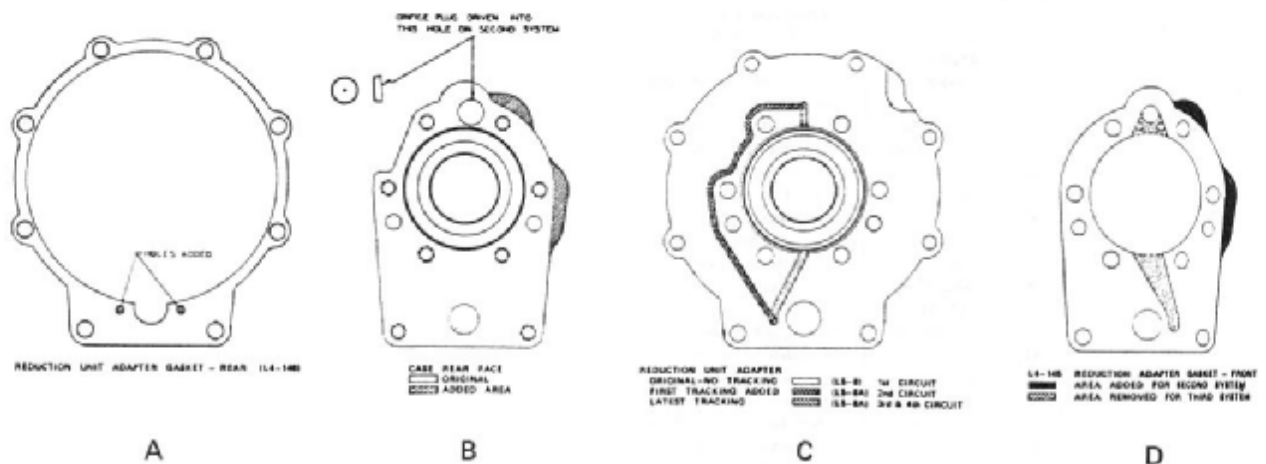
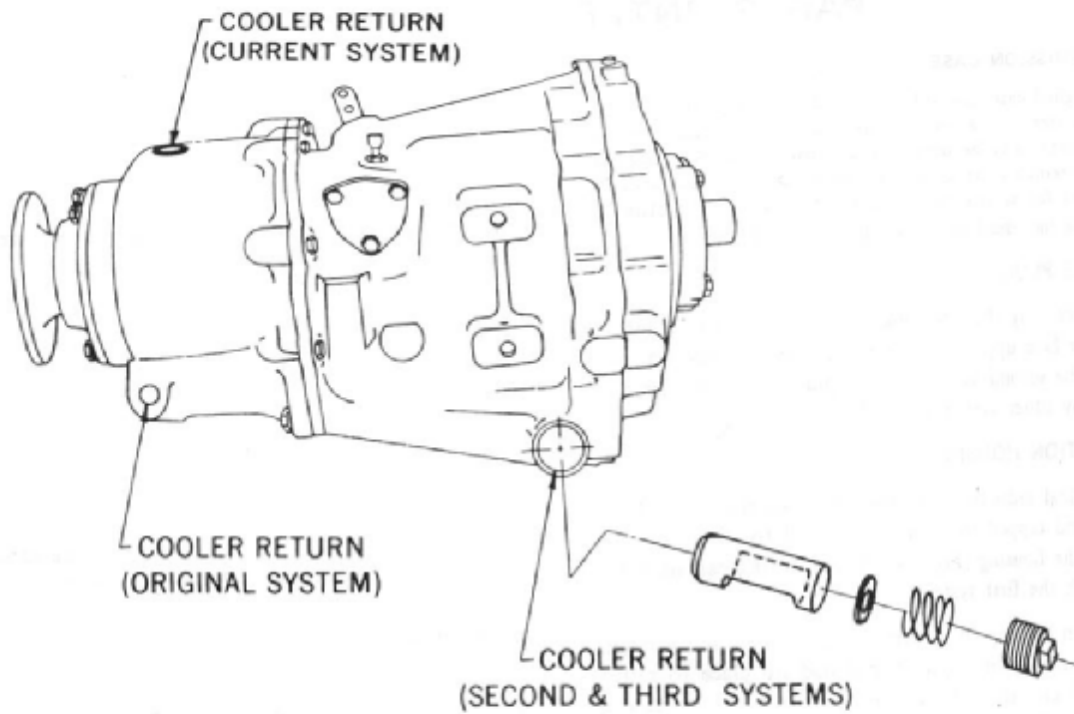
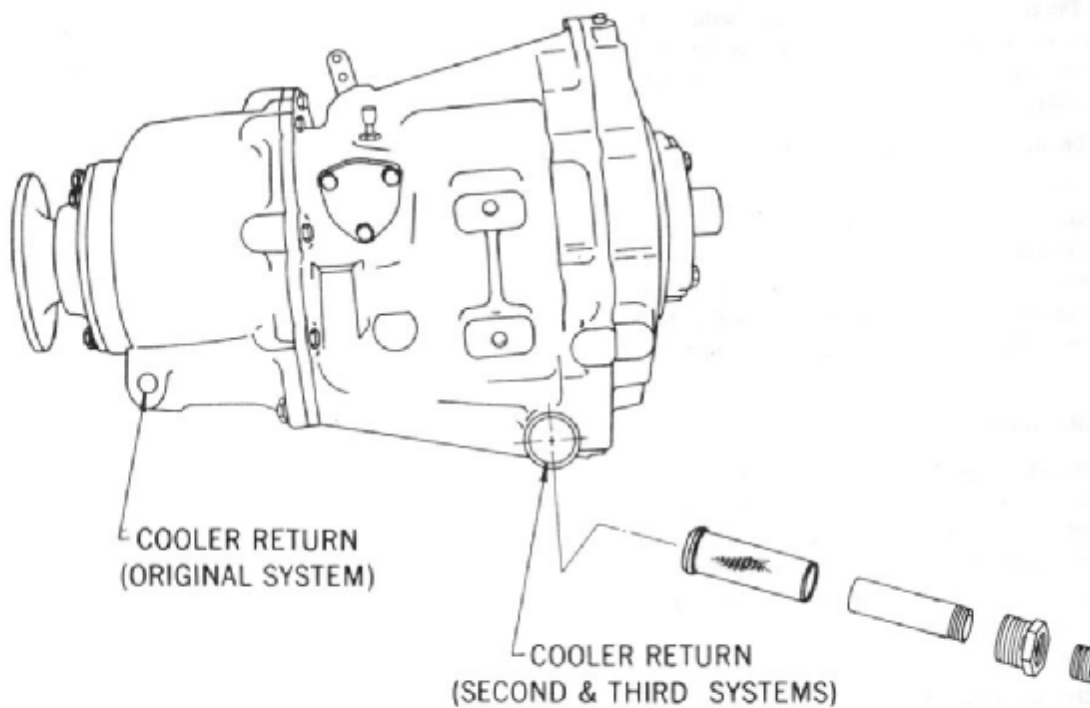
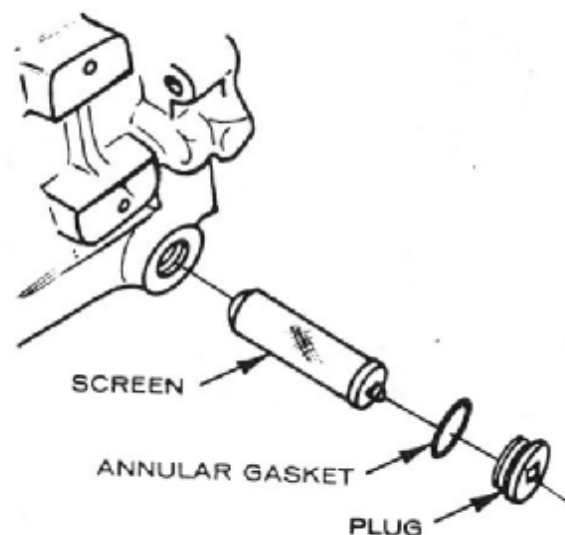

FIG. 5 PARTS REQUIRED FOR THE VARIOUS CIRCULATION SYSTEMS
FIG. 6 VARIOUS COOLER RETURN LOCATIONS WITH PARTS USED WITH FOURTH SYSTEM SHOWN.
FIG. 7 VARIOUS COOLER RETURN LOCATIONS WITH PARTS USED WITH SECOND & THIRD SYSTEMS SHOWN.
FIG. 8 EARLY SCREEN & DRAIN PLUG
(1) NOT CURRENT PRODUCTION - available for repairing earlier units.
(2) SEE FIG. 7.
(3) SEE FIG. 8 - ALSO NOTE (1).
Four circulation systems have been used for cooler and lubrication oil flow to the reduction gear set and rear bearing of 2.10 reduction transmissions. Units which have the earliest circulation system have the cooler oil returned to a tapped hole which is located on the lower right side of the reduction housing, (Fig. 6).
Transmissions which have cooler oil returned through a bushing in the drain plug opening of the forward and reverse transmission (as illustrated in Fig. 7) will either have the second or third circulation system. Units which have the second system have a crooked track on the reduction adapter front face. Units which have the third system have two short straight tracks on the reduction adapter front face, (Fig. 5, Item C). A visual inspection of the adapter front face will be required to determine which of these two systems is being used.
Transmissions which have the fourth system have cooler oil returned to the top of the reduction housing (as shown by Fig. 6). Oil screen (71-A98A), tube (71C-84), bushing (4885B), and dipstick (71-A195) were removed and pump inlet shield (72C-98), washer (35-143), spring (5L-222), a 3/8" pipe plug (000444592) were added to transmissions which have the fourth system, (Fig. 6).
The original case can only be used with the first oil circulation system. The revised case, first used with the second system, may be used for all four systems. The part number remains the same and only revised cases will be furnished for service parts. The revised case has the rear face area increased as shown in Fig. 5, Item B.
An orifice plug (Part Number 4572X) was driven into the case rear face upper hole (Fig. 5, Item B) only on units having the second system. This plug should be omitted when any other system is used.
The original reduction housing (Part Number L5-1) was drilled and tapped to return cooler oil to the lower right side of the housing (Fig. 6). This housing can only be used with the first system.
Reduction housing (Part Number L5-1B) is drilled and tapped to return cooler oil to the top of the housing (Fig. 6). The correct housing must be used with each system; however, all three earlier systems may be updated to the latest system by including the proper parts in the assembly.
Two small holes (Fig. 5, Item A) were added to reduction adapter gasket - rear (L4-146) for use with the second circulation system. This gasket with the two small holes may be used for all replacements. The gaskets without the two small holes should no longer be available, but should never be used except with the first circulation system.
The reduction adapter gasket - front (L4-145) was changed twice by first adding material to cover the crooked track in adapter front face and later the gasket was cut out to match the straight track used with the third system (Fig. 5, Item D). The latest gasket may be used for all four systems and will be the only gasket supplied for service.
The oil strainer, annular gasket, and drain plug, illustrated in (Fig. 8), can only be used with cases having the case face machined to seal on the annular gasket.
Parts illustrated in (Fig. 7) are used with the second and third circulation systems. The oil strainer with an open end is also used as a service replacement part to replace the strainer illustrated in (Fig. 8) for use with the first circulation system.
The pipe plug illustrated in (Fig. 7) replaced the annular gasket and drain plug. Case threads are different for each plug, therefore these plugs are not interchangeable.
Parts used with the third circulation system which are omitted when changing to the fourth system are shown in (Fig. 7). Parts used in the fourth system are shown in (Fig. 6). Individual parts are not interchangeable. These parts may be changed if all parts of each group are used together.
NOTE: The oil inlet shield should not be removed from the forward and reverse transmission case; however, if removed or when a new case is used, the shield should be pressed into position with the opening located down in the transmission as shown in (Fig. 6).